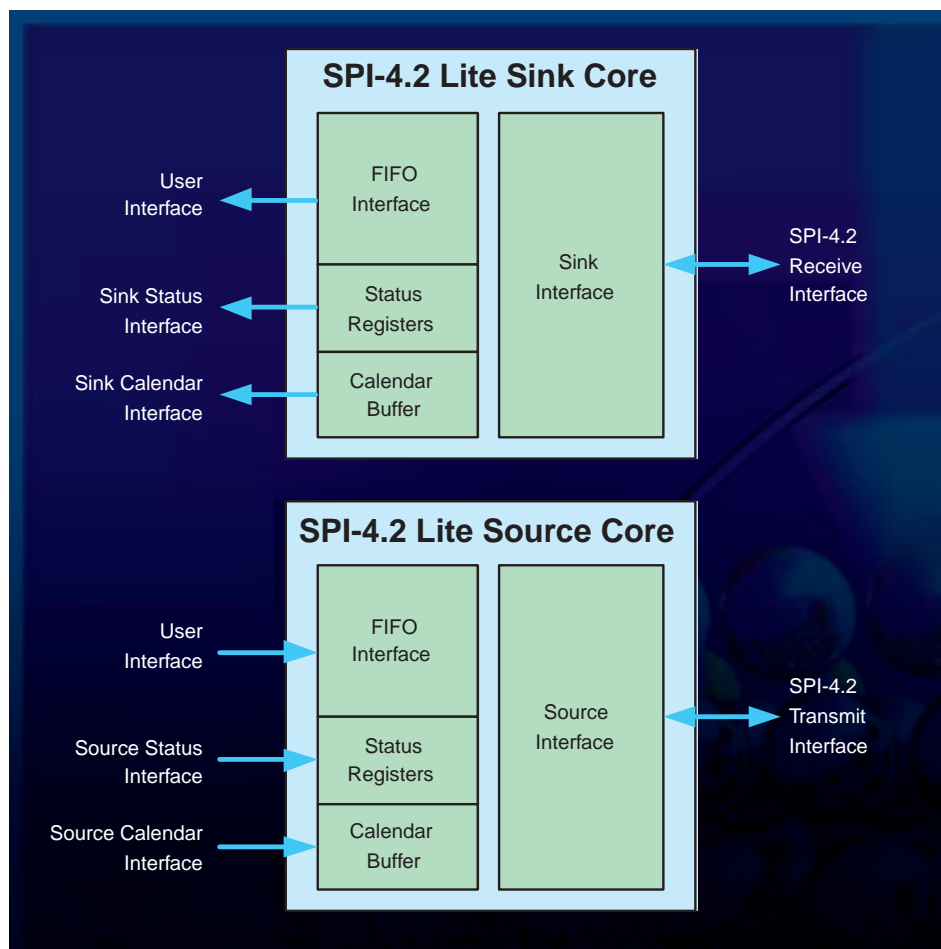

Figure 3 - Block diagram of SPI-4.2 Lite and full-rate core
The SPI-4.2 Lite core is delivered as independent source (Tx) and sink (Rx) cores. A block diagram of the SPI4.2 Lite IP core and its interfaces is shown in Figure 3. It is a drop-in replacement for the Xilinx full-rate SPI-4.2 IP core – the signals and functionality of both the full-rate and Lite SPI4.2 core are identical.
4. Calendar interface, as shown in Figure 3.